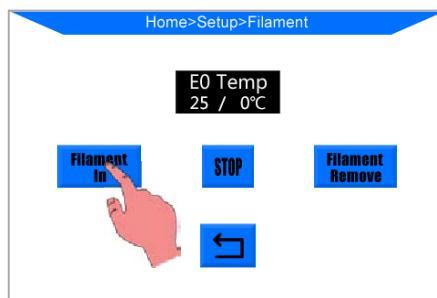

Figure 30
2. After the pre-heat is finished, please click on Home screen “Tools”-->“Filament” --> “Filament in”(**Fig.30**). The extruder motor will start to feed the filament into the hotend. There might be some excessive filament melt through the nozzle at high temperature, use tweezers to carefully remove it from the nozzle tip before print.